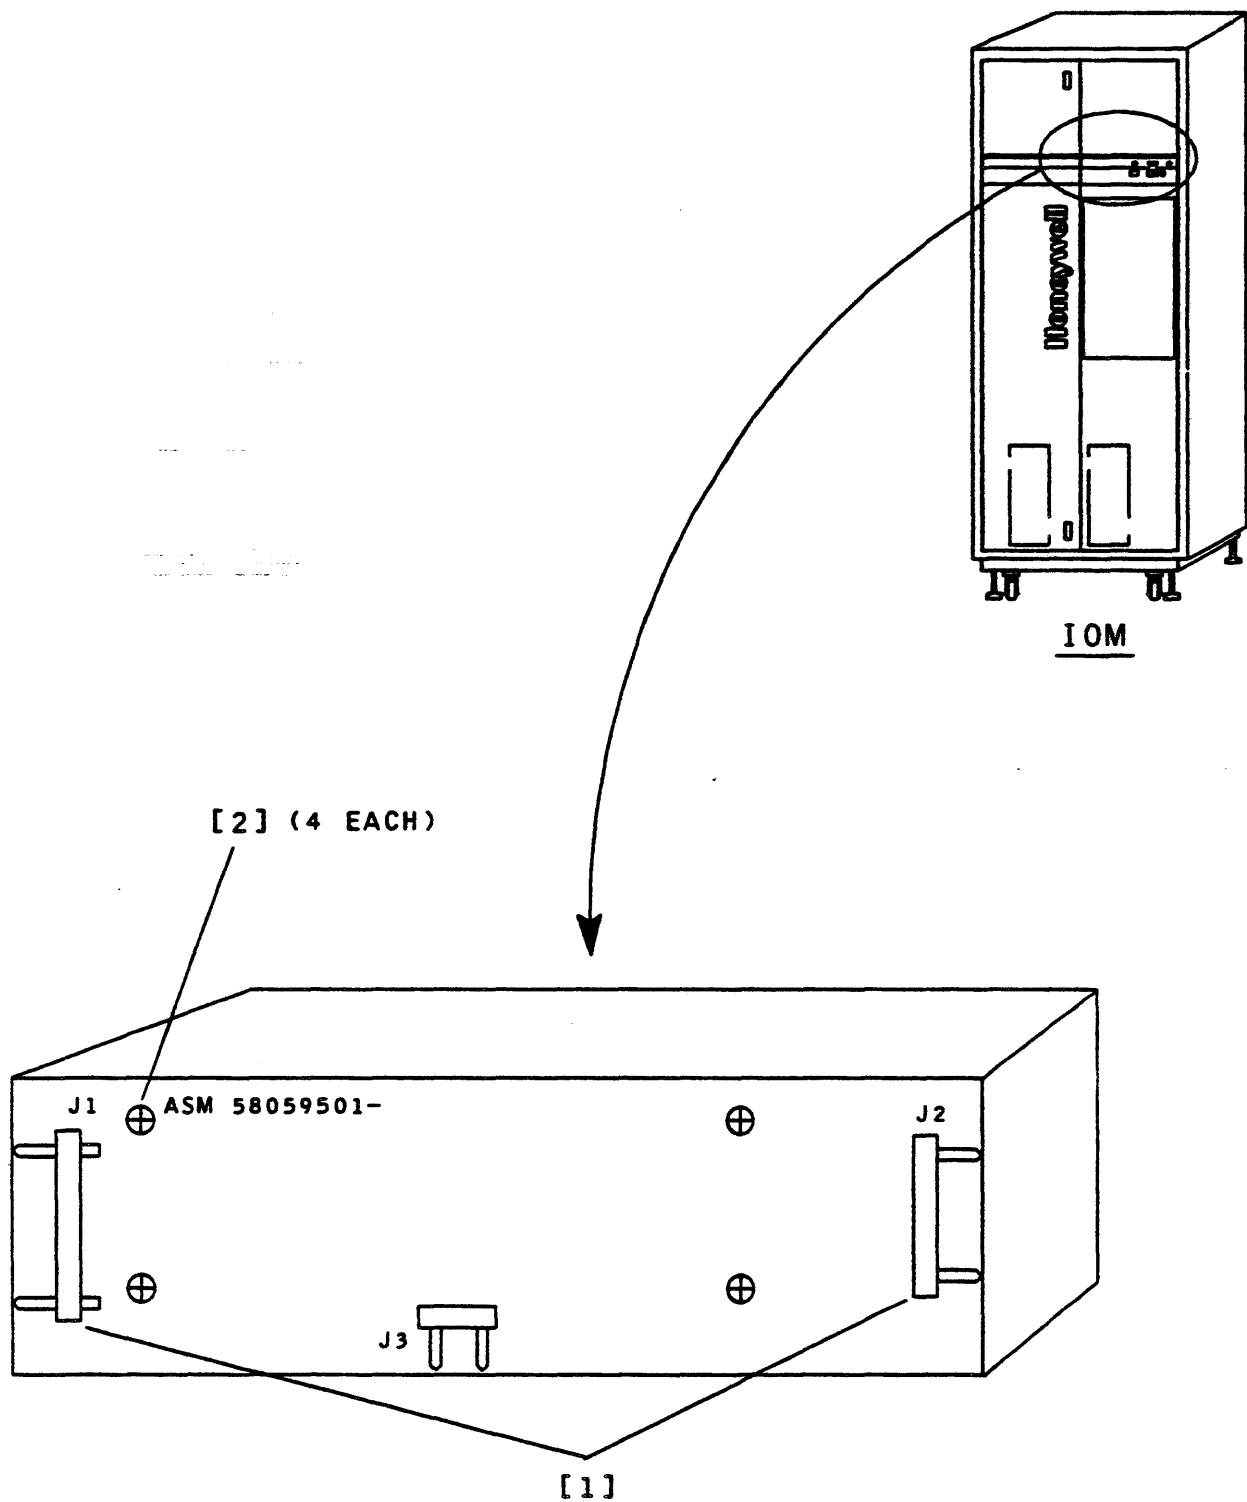

FIGURE 2.36-1. PWA LP-DR REMOVAL/INSTALLATION
6. Using a cross-tip screwdriver, remove faulty PWA's retaining hardware and remove PWA from cabinet (Figure 2.36-1, [2]).